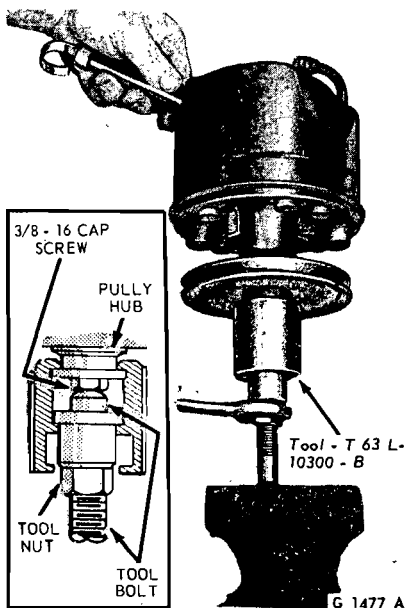

FIG. 5—Removing Pulley From Pump
7. Install tool T63L-10300-B on the pulley and remove the pulley from the pump shaft. Refer to Fig. 5 for tool installation.
3. Install the pulley remover tool, T63L-10300-B on the pulley hub, and place the tool and pump in a vise as shown in Fig. 5.
4. Hold the pump and rotate the tool nut counterclockwise to remove the pulley (Fig. 5).